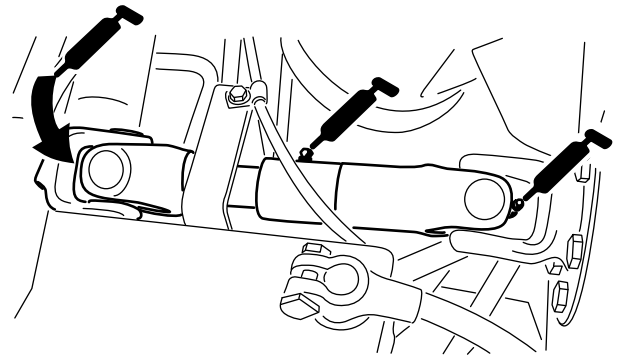

Figure 46
- Pump driveshaft U-joint (3)—Figure 46